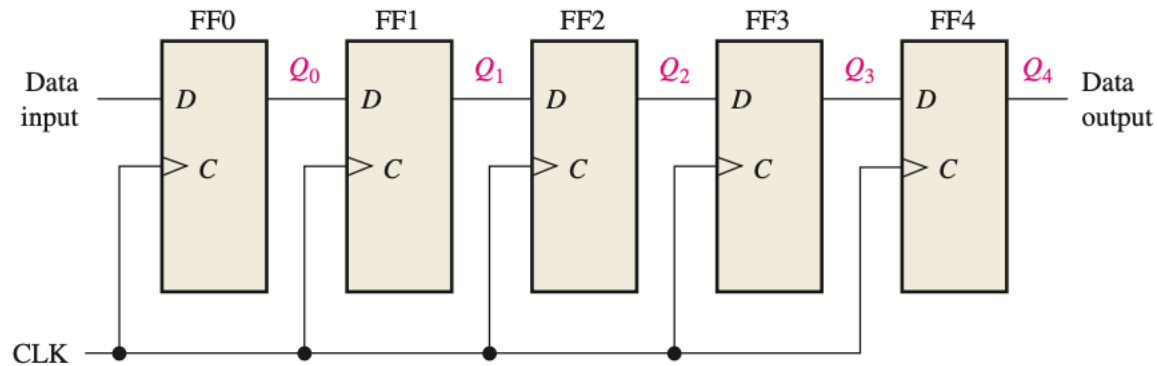

Figure 4 SISO shift register
Example 1: Show the states of the 5-bit register in Figure 4 for the specified data input and clock waveforms. Assume that the register is initially cleared (all 0s).
The first data bit (1) is entered into the register on the first clock pulse and then shifted from left to right as the remaining bits are entered and shifted. The register contains $Q_4Q_3Q_2Q_1Q_0 = 11010$ after five clock pulses. See Figure 4(b).